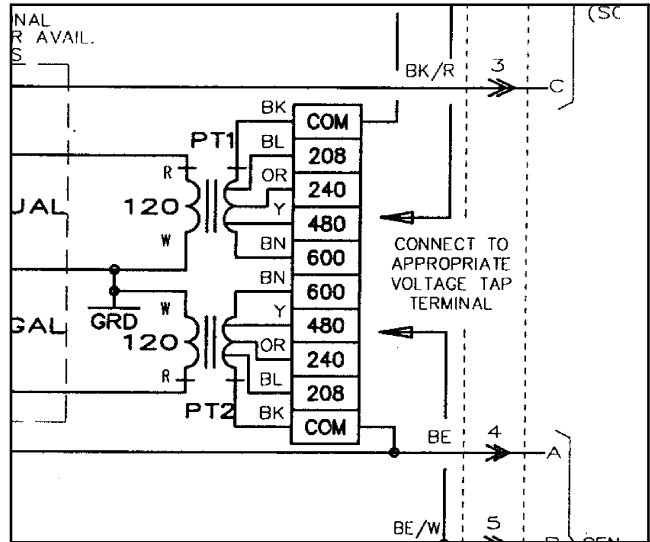

Figure 1 Schematic
3. Change the voltage transformer primary taps settings to match new system voltage on all potential transformers. Refer to the wiring schematic diagram in Figure 1. Ensure all electrical connections are tight.